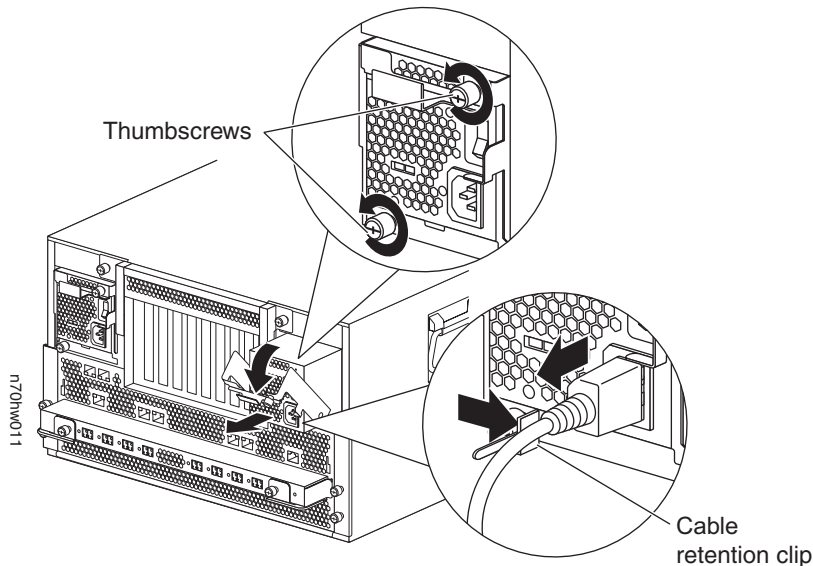

Figure 25. Removing the power supply
1. Make sure that you are properly grounded, then turn off the target power supply and remove the power cord by completing the following substeps, using Figure 25 on page 56 for reference: